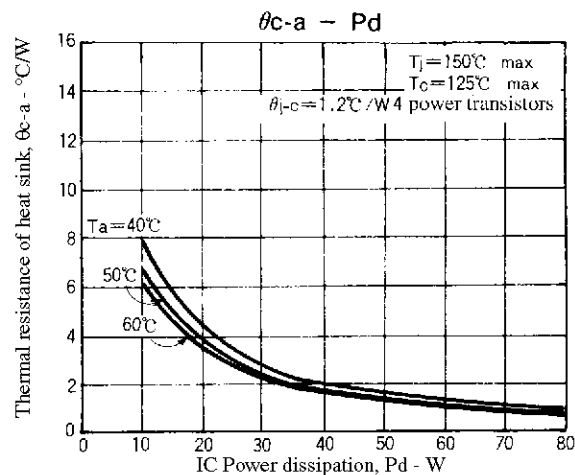

Figure 2. STK4048XI $\theta_{c-a} - P_d$
Figure 2 shows the relation between P_d and θ_{c-a} given from (1) and (3) with T_a as a parameter.
The thermal resistance of a heat sink is obtained from Figure 2.